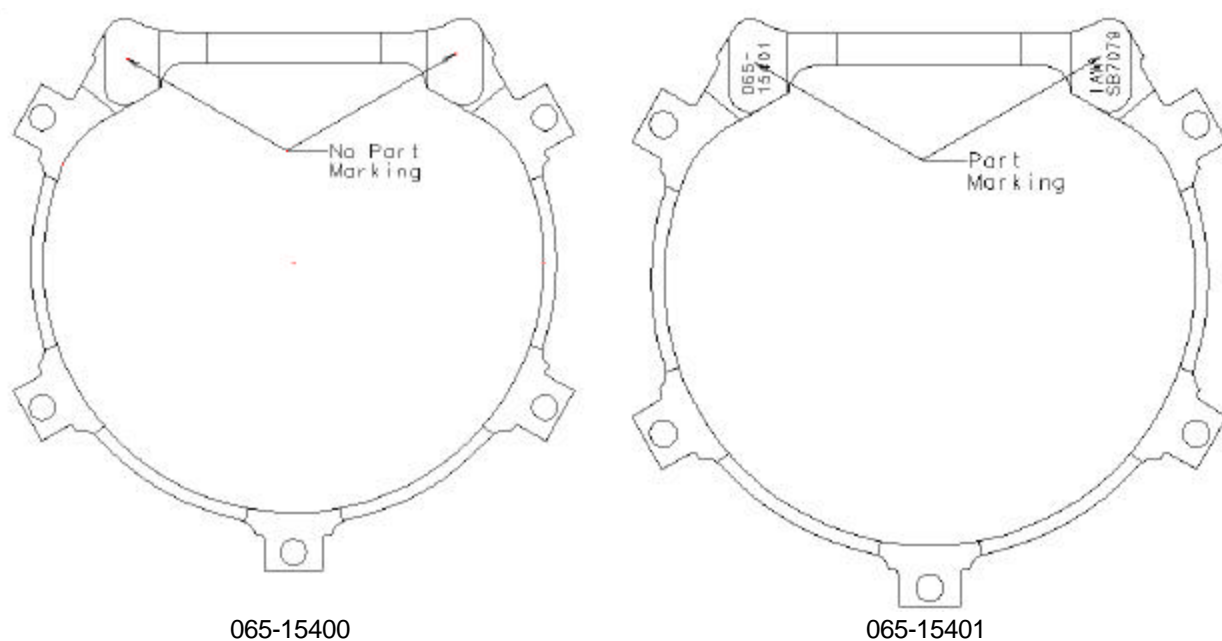

Figure 1
- 3) For aircraft that are identified as being equipped with the 199-184, 199-220, or 199-220A Wheel and Brake Kit, inspect the Brake Assembly to determine which torque ring part number is installed (ref. Figure 1).